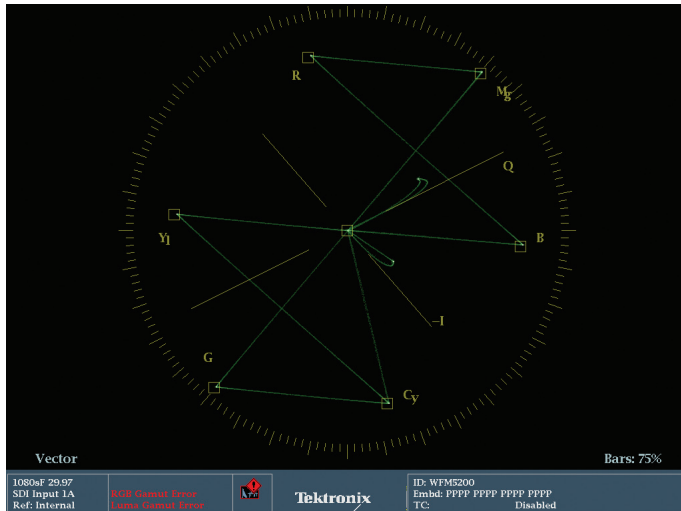

Figure 1-8. Color bar signal to the vector display.
Apply a color bar signal to the vector display with White, Yellow, Cyan, Green, Magenta, Red, Blue and Black bars. You can follow this pattern within the vector display (Figure 1-8) starting from the center trace the display to yellow vector (YL) then Cyan (CY) and follow on to Green (G), Magenta (MG), Red (R), Blue (B) and then back to the center of the display.